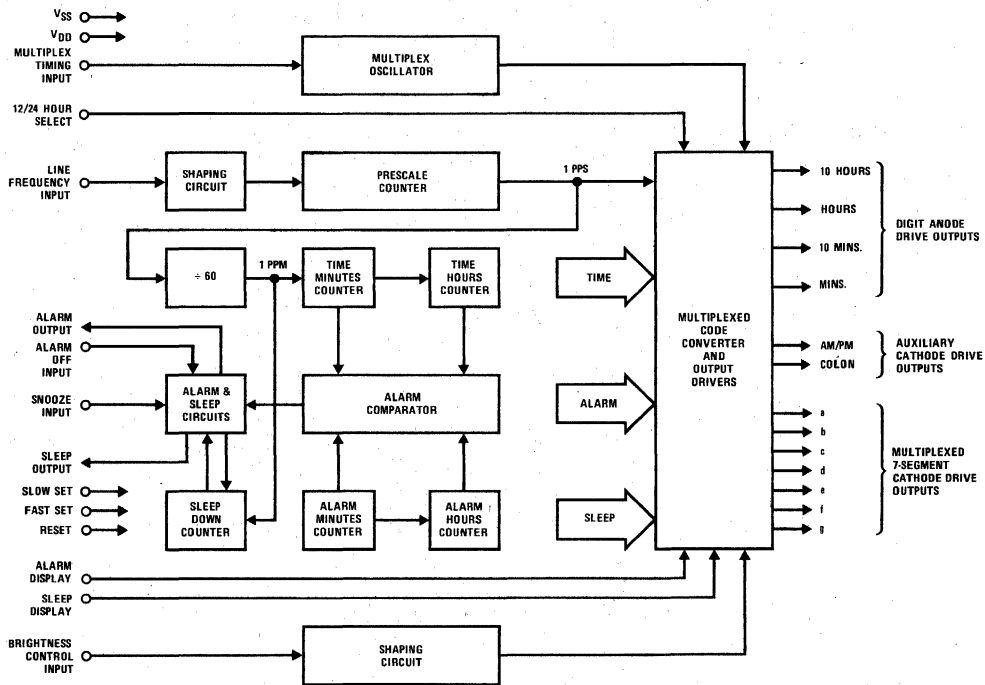
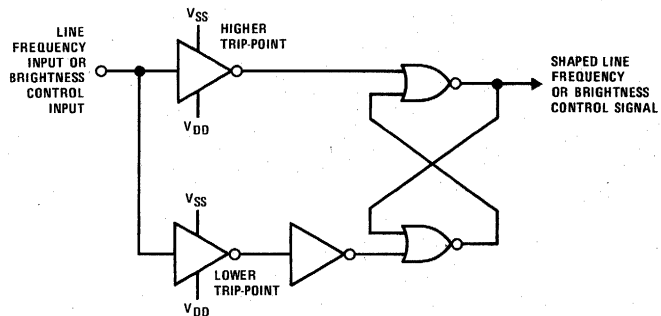
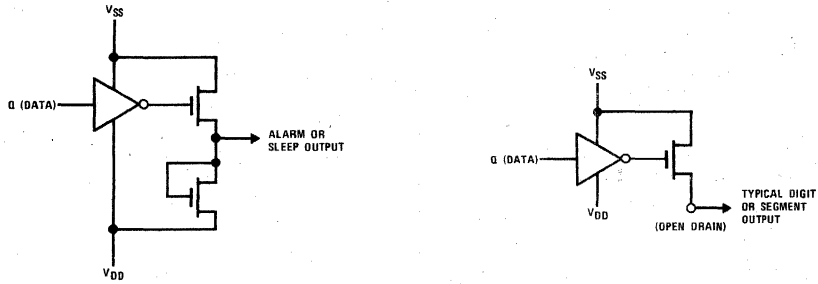
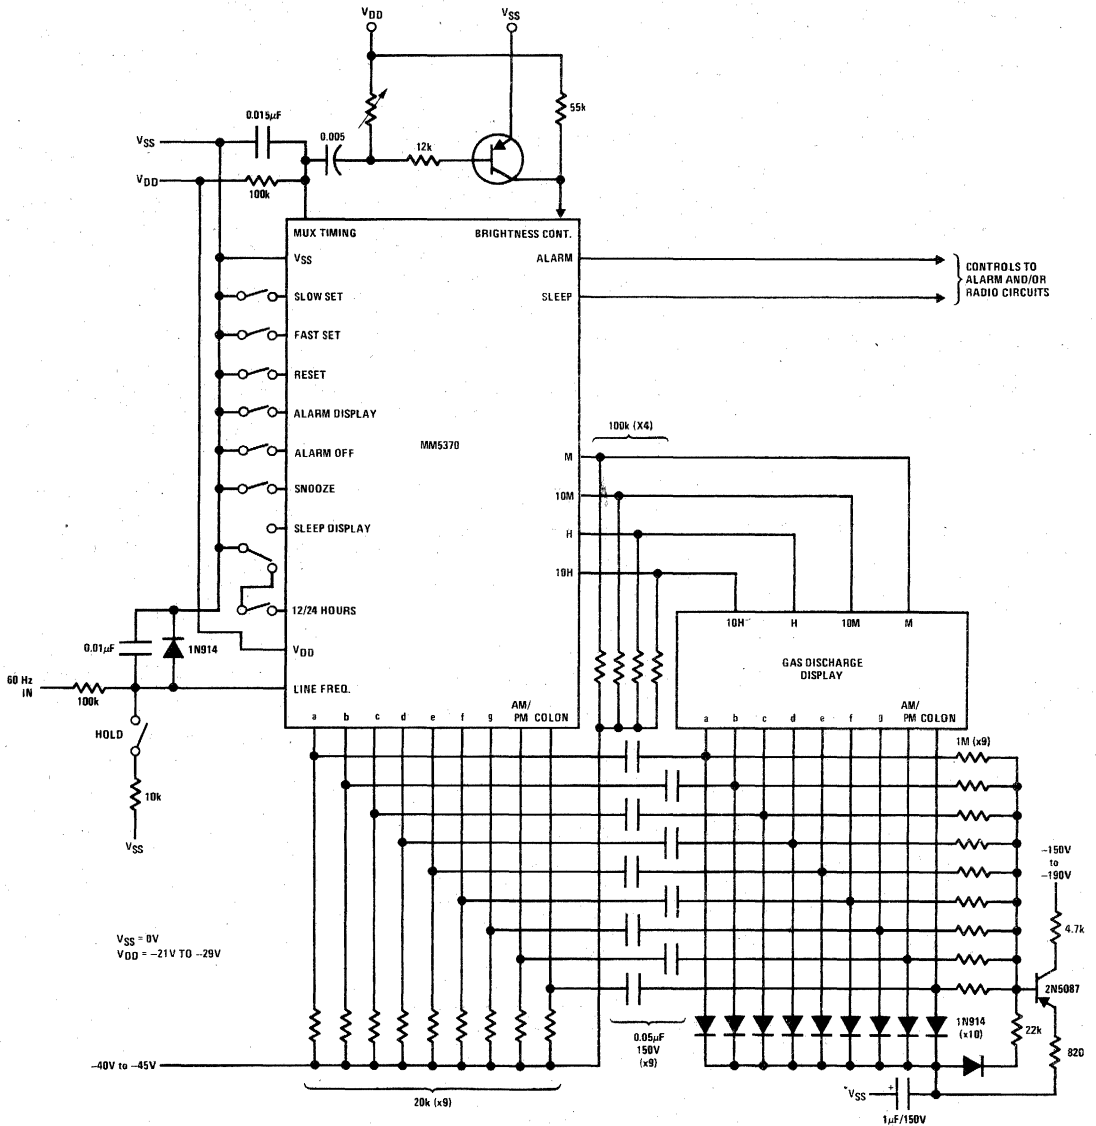

FIGURE 1. MM5370 and MM5371 Digital Alarm Clock, Block Diagram
FIGURE 2. 60 Hz (or 50 Hz) Input (or Brightness Control Input) Shaping Circuit
FIGURE 7. Output Circuits
FIGURE 8. Recommended Application
A block diagram of the MM5370 and MM5371 clocks is shown in *Figure 1*. The various display modes provided by these clocks are listed in Table I. The functions of the controls are listed in Table II. A connection diagram for these devices is shown on page 1. Unless indicated otherwise, the following discussions are based on *Figure 1*.
Line Frequency Input (pin 12): A shaping circuit is provided to square the 60 Hz (MM5370) or 50 Hz (MM5371) input. This circuit allows use of a sinewave input. The Schmitt Trigger shaper (*Figure 2*) is designed to provide approximately 6V of hysteresis. A simple RC filter, such as shown in *Figure 8*, should be used to remove possible line-voltage transients that could cause the clock to gain time or damage the device. The shaper output drives a counter chain which performs the time-keeping function. A prescale counter divides the line input frequency to obtain a 1 pps timebase.
Display Mode Select Inputs (pins 7 and 8): In the absence of either of these inputs, the display drivers output time-of-day information to the display. Internal pull-down (to V_{DD}) depletion loads allow use of simple SPST switches for connecting these inputs to V_{SS} , thereby selecting alternate display modes. If more than one mode is simultaneously selected, the priorities are noted in Table I. As shown in *Figure 1* the multiplexed code converter receives time, alarm and sleep information from appropriate points in the clock circuitry. The display mode select inputs control the gating of the desired data to the multiplexed code converter inputs and ultimately (via output drivers) to the display.
Time Setting Inputs (pins 10 and 11): Both fast and slow setting inputs are provided. These inputs are applied either singly or in combination to obtain the control functions listed in Table II. Again, internal pull-down depletion loads are provided; application of V_{SS} to these pins effects the control functions. Note that the control functions proper are determined by the selected display mode. An optional hold-time control function can be obtained as shown in *Figure 8*.
12 or 24-Hour Select Input (pin 13): By leaving this pin unconnected, the clock is programmed to provide a 12-hour display format. This format provides for zero-blanking the most significant display digit (ten's of hours). An internal pull-down depletion load is again provided; connecting this pin to V_{SS} programs the 24-hour display format. (See *Figure 8*).
When driving gas discharge displays which enclose more than one digit in a common gas envelope, it is necessary to either (1) inhibit the segment drive voltage(s) for a short time during inter-digit transitions, or (2) avoid physically adjacent inter-digit transitions. The MM5370 and MM5371 clocks utilize an interlaced output sequence to eliminate the need for inter-digit blanking circuitry and to prevent display arcing problems. The digit sequence is: (1) digit no. 1 (ten's of hours), (2) digit no. 3 (ten's of minutes), (3) blank for one digit time, (4) digit no. 2 (unit hours), (5) digit no. 4 (unit minutes), (6) blank for one digit time, etc. The two blanking intervals are provided to recharge level-translating capacitors located in the display segment drive lines (see *Figure 8*). Both segment data and digit enable are blanked. *Figure 3* is a timing diagram which illustrates output timing.
Output Circuits: All display output drivers are open-drain devices with sources common to V_{SS} (pin 5), see *Figure 7*. *Figure 8* illustrates interfacing the clock outputs and a gas discharge display.
Brightness Control Input (pin 15): Since display brightness is a function of cathode segment current, a capability of interrupting this current for a variable percentage of the digit interval results in a brightness control. Connecting this Schmitt Trigger input (see *Figure 2*) to V_{DD} places all cathode segment drive voltages at the high level, thereby inhibiting the display. Conversely, V_{SS} applied to this input enables the cathode segment drives. The Schmitt Trigger shaper provides approximately 1V of hysteresis, which facilitates using a waveform such as a sawtooth with a variable slope (or variable dc component) to effect the shaper output duty cycle and, therefore, the display brightness. The control waveform should be derived from the multiplex frequency; a circuit is included in *Figure 8*.
Alarm Operation and Output (pin 2): An alarm comparator (see *Figure 1*) senses coincidence between the alarm counters (the alarm setting) and the time counters (real time). The comparator output is used to set a latch in the alarm and sleep circuits. This latch enables the alarm output driver (see *Figure 7*), the output of which is used to control the external alarm sound generator. The alarm latch remains set for 59 minutes, during which the alarm will sound if the latch output is not
sleep display mode (see Table I) and setting the desired time interval (see Table II). This automatically results in a current-source output via pin 4 which can be used to turn on a radio. When the sleep counter, which counts downwards, reaches 00 minutes a latch is reset and the sleep output drive current is removed, thereby turning off the radio. This turn off also may be manually controlled (at any time in the count-down) by a momentary V_{SS} connection to the snooze input (pin 1). This input is also returned to V_{DD} by a depletion load. The output circuitry is the same as the alarm output (see Figure 7).